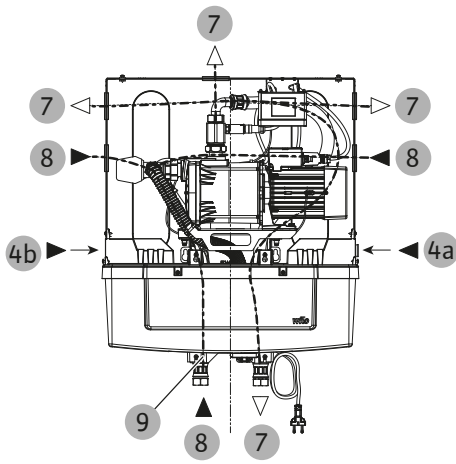

Fig. 14: Hydraulic connections
- Connection for industrial water distribution (G 1" union nut) (Fig. 14, Item 7).
- Tap water pipe (G 3/4") (Fig. 14, Item 4 or Turn tap water connection [► 55] section Item 4a or 4b)
A connection with a flexible hose in conjunction with a shut-off valve is strongly recommended. The connection to the replenishment valve (Fig. 14, Item 4) should be made with a flat seal and a union nut.
- Suction line from the rainwater storage tank (G 1" union nut) (Fig. 14, Item 8)
- Connect overflow connection (Fig. 14, Item 9) for small leakages with overflow hose (on-site, Ø 19–21 mm inside diameter) (Fig. 2, Item 29)
The tap water inlet (Fig. 1, Item 4) is fitted as standard on the right-hand side (Fig. 14, Item 4a) of the replenishment reservoir. To facilitate installation, it is possible to switch to the left side (Fig. 14, Item 4b).